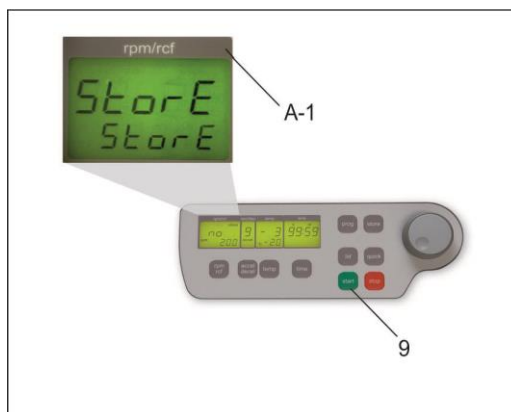

Figure 3
- All changed settings must be confirmed by the key, "start" (9). A confirmation screen will appear with the word; "store" in the display box, "rpm/rct"(A-1) - Only then, the pre-selections are valid! (see Figure 3).